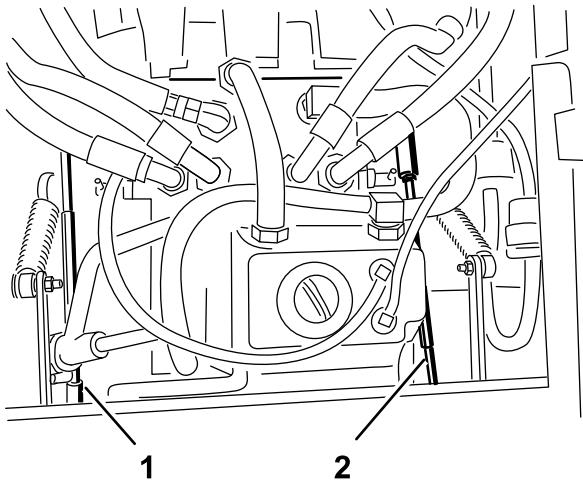

Figure 61
6. Adjust the pump rod length on one side by rotating the hex shaft, in the appropriate direction, until the corresponding wheel is still or slightly creeping in reverse (Figure 61).